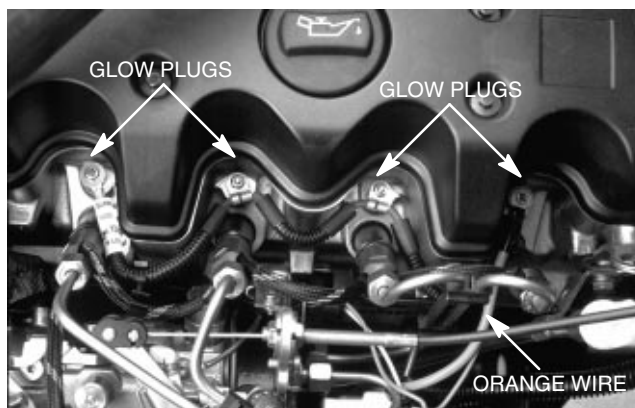

Figure 3
2. Make sure engine is off. Place current transducer around the orange wire connected to glow plugs (Fig. 3).